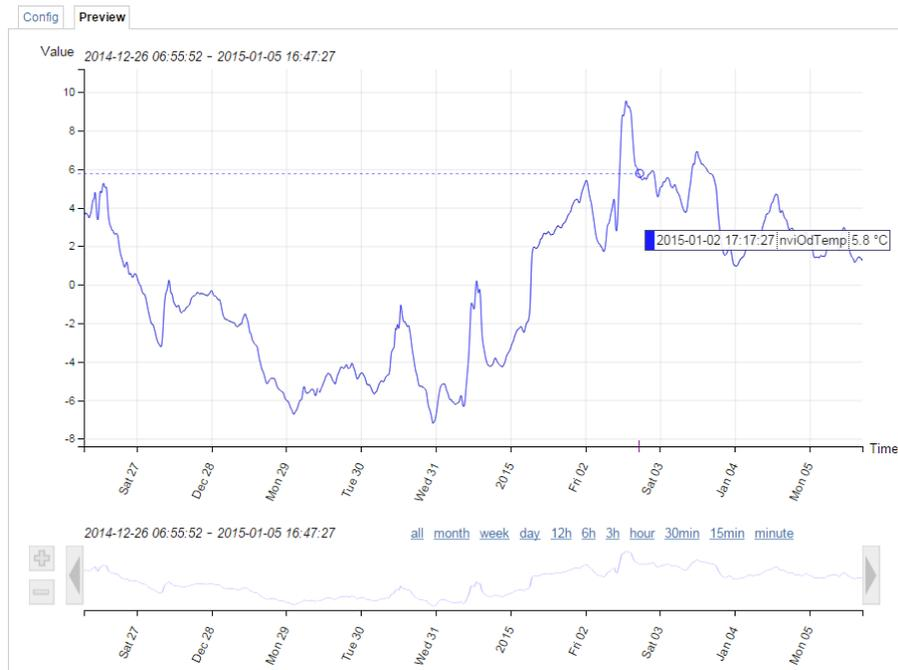

Figure 3: New trend chart on the Web UI
- The trend log configuration on the Web UI now also provides a preview tab, which shows a chart of the trend log data. The trend chart allows zoom, scrolling and hiding specific data curves, as shown in Figure 3.